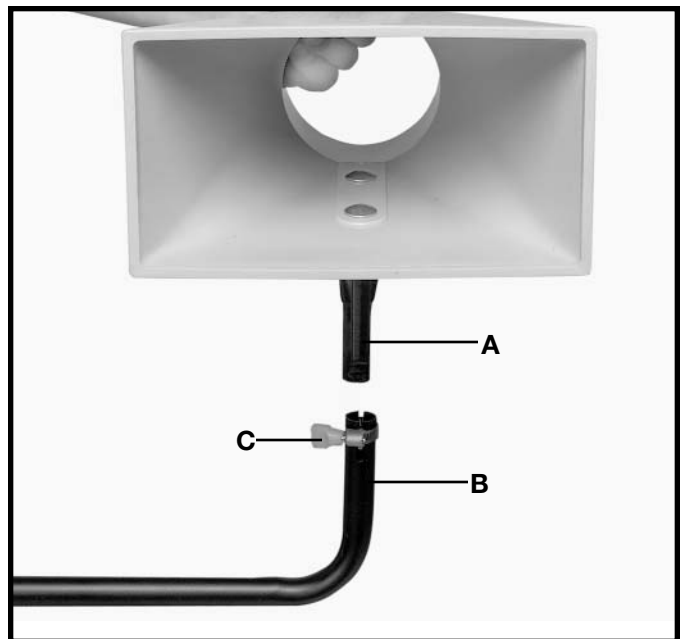

Fig. 14
8. Place lower support tube (B) Fig. 14, onto intake funnel assembly (A) and secure with tube clamp (C).